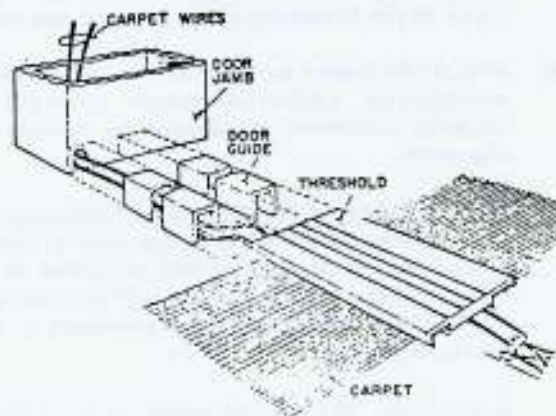

FIG. 11 Carpet lead wire connections.
2. Place each floor guide with one edge flush up against the chalk line and the edge against the door jamb. Use the holes in the floor guide to locate points on the floor underneath for drilling holes for the plastic inserts. Drill 5/16 inch holes, 1 inch deep at the located points. Tamp the plastic inserts into the holes and secure the floor guides to the floor, with the wires from the door jamb running through one of its grooves, as shown in FIG. 11. Use No. 10 sheet metal screws.